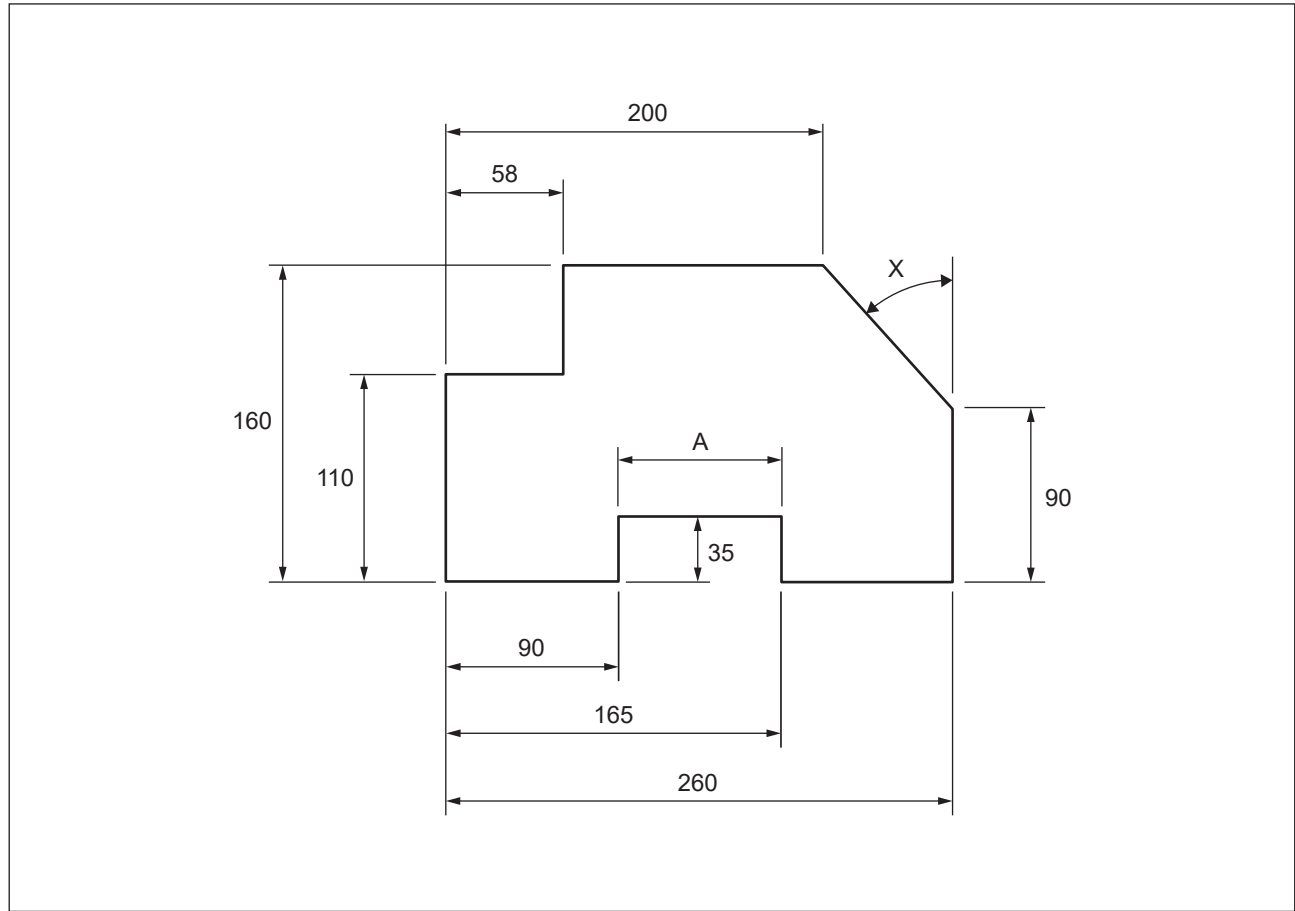

Figure 5
Figure 5 shows a diagram of a component made from mild steel.
- a. Calculate the dimension A of the component shown in Figure 5. 1 mark
- b.** Calculate the angle X of the component shown in Figure 5. Show your working. 2 marks